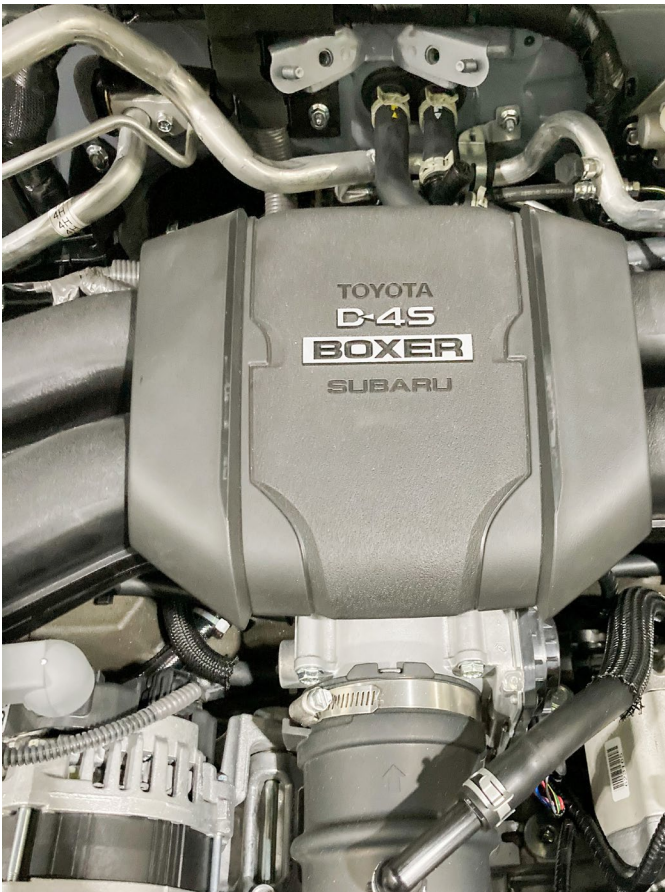

Figure 6
5. Remove the intake manifold cover by lifting up. It is held in with rubber grommets and stand offs. (Fig 6)